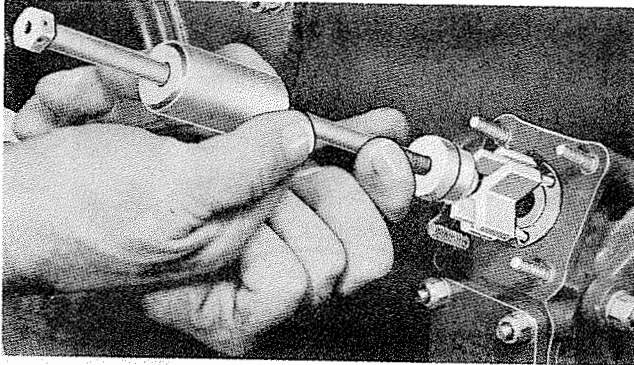

Figure 7-79. Removing Tachometer Drive Shaft Oil Seal and Retainer
- b. Remove the oil seal retainer attaching screws. Remove the oil seal and retainer assembly using puller 806147. See figure 7-79.